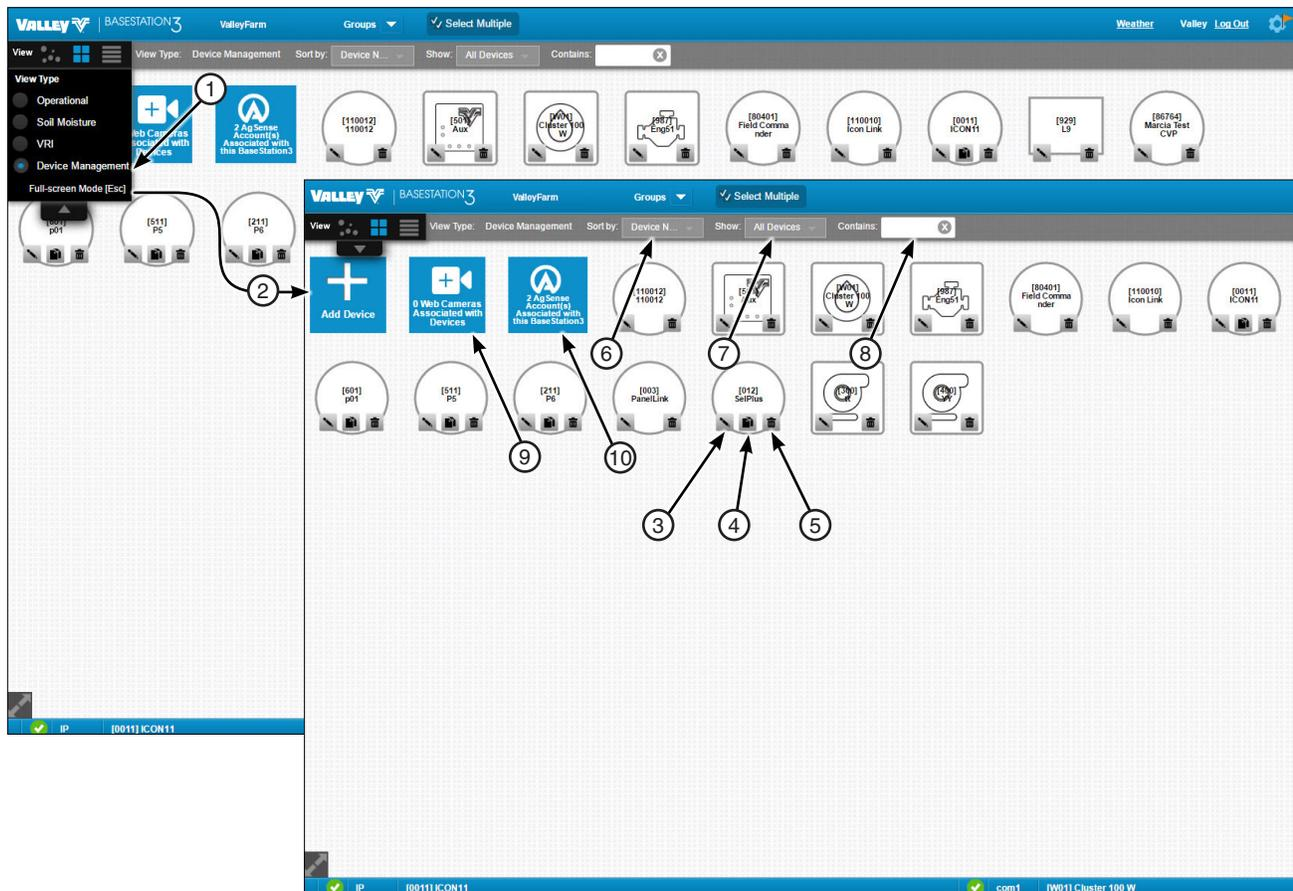

Figure 36-1
1. In Tile View, when **Device Management** is selected as the View Type, devices can be added, changed, copied, and deleted. Selecting this View Type does not change the default view type set in Preferences. See Figure 36-1.